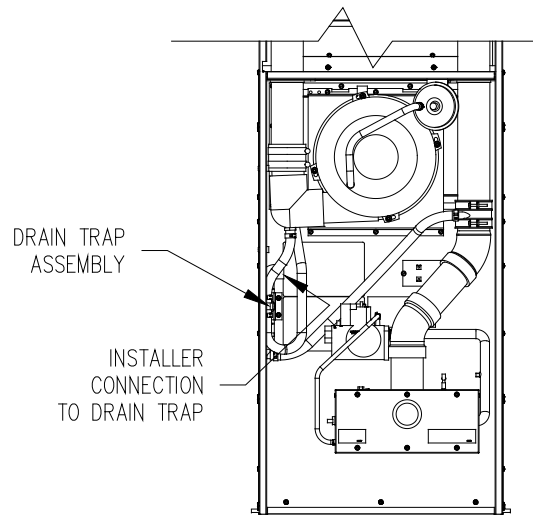

Figure 14.
1. Figure 14 illustrates the typical drain trap connection for a CMA furnace. (Trap will be installed at factory.) Connect condensate drain trap to building drain system.